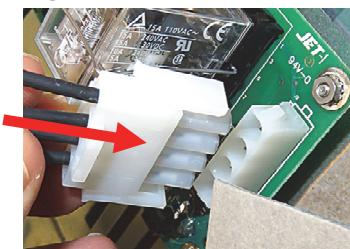

**Figure 20**
24. Insert the pin of the white wire, removed in step 7 into the number 6 pin position, of the 12-pin Molex male connector, in the new supplied harness (see Figure 20). Give a gentle tug on the wire to ensure the pin is fully seated into the connector.